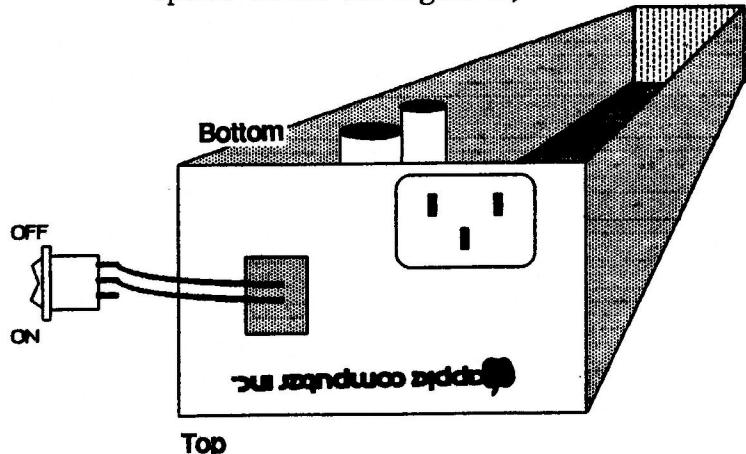

FIGURE 6
- The open terminal will now mark the "ON" side. Orient it toward the top of the case. (See Figure 6.-next page- If you are working with the cover off, the case will be upside down.)
- Make sure that "ON" (marked on the switch) is toward the top of the case. (If you are working with the cover off, the case will be upside down: see Figure 6.)